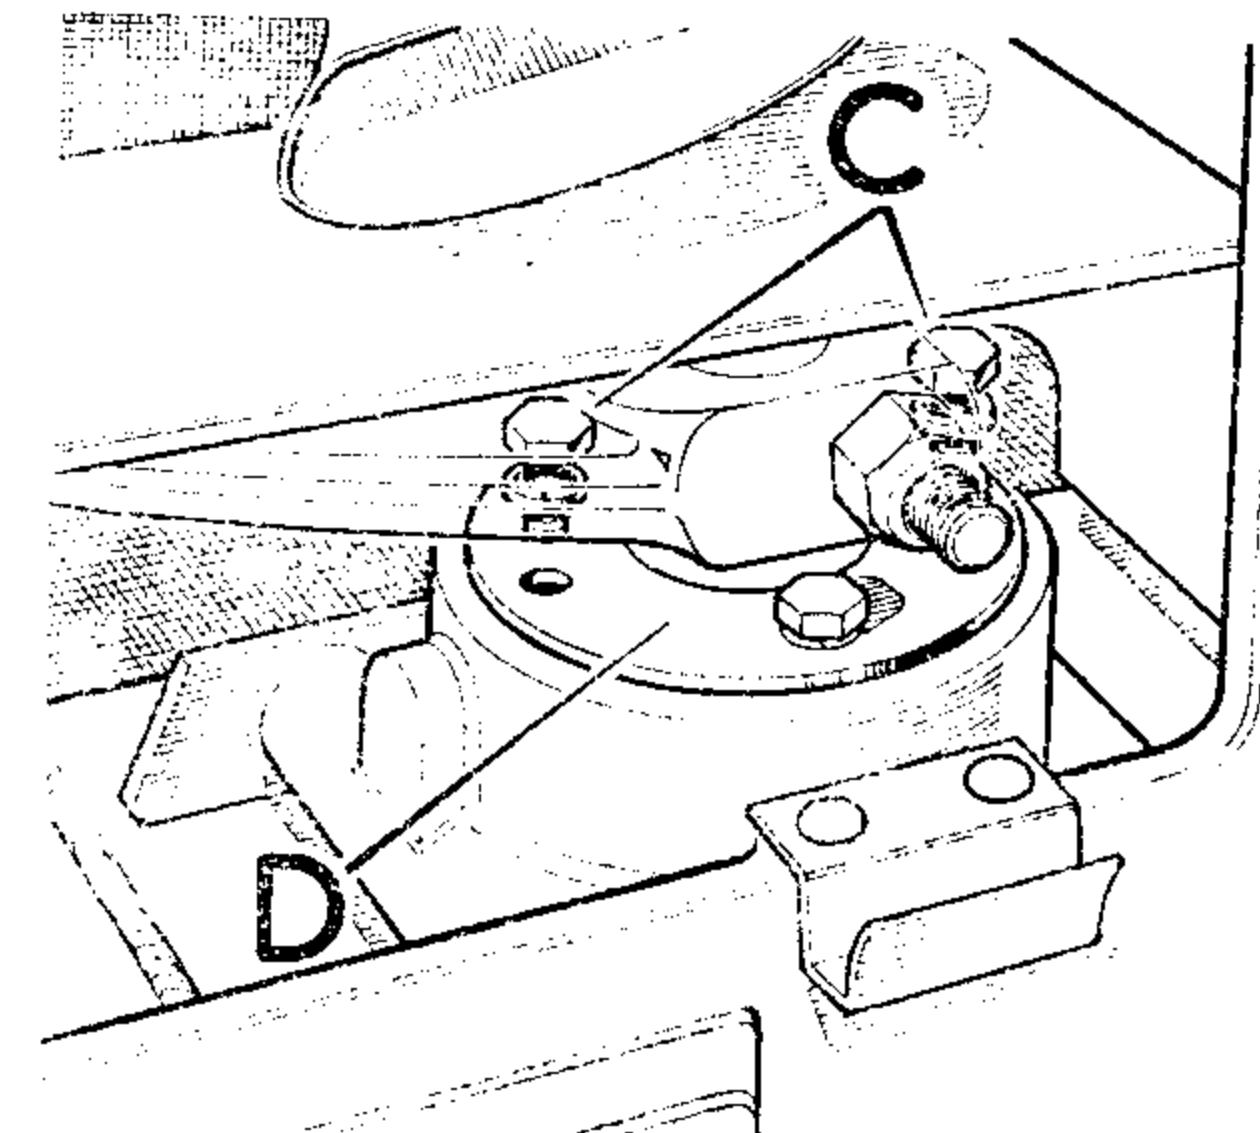

Fig. 50. Steering relay unit
2. Remove two of the bolts (C) securing the relay top cover (D), Fig. 50.